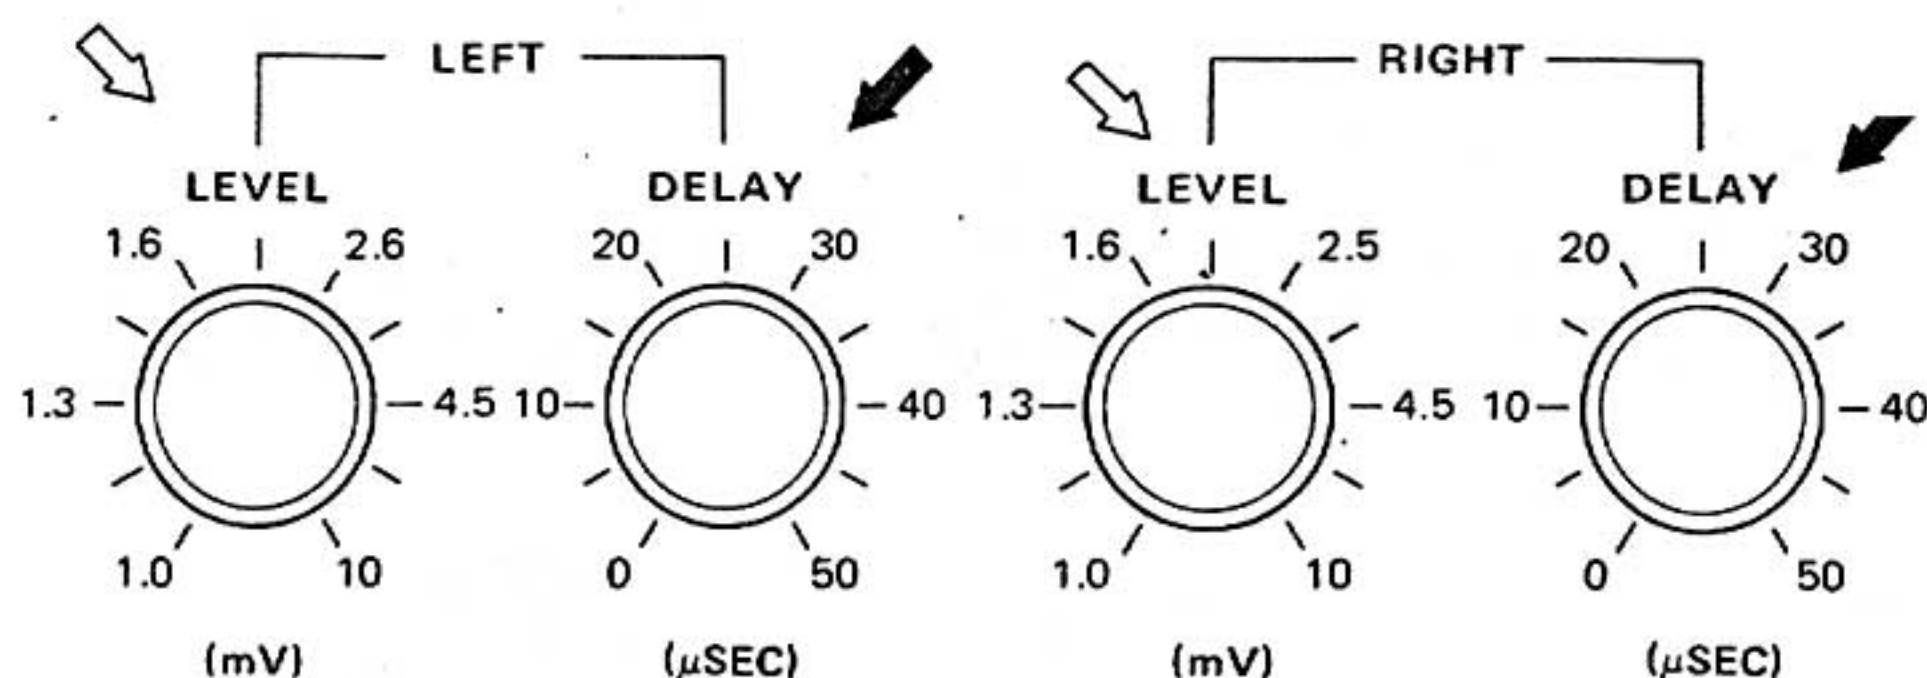

Fig. 5
- (2) Use the adjustment record provided for separation adjustment. Play the section of the record which contains a lower frequency signal (600Hz) and turn the LEFT and RIGHT LEVEL controls (shown in Fig. 5) to minimize the sound volume from the back channels. To make this adjustment easier, adjust the amplifier's volume or balance controls beforehand, so that only the corresponding back channel can be heard. The LEVEL control scale values indicate the output level of a cartridge when a record cut with a horizontal amplitude velocity of 5cm/sec (JIS standard) is being played. Use these values as a rough reference if you know the specifications of your cartridge. For instance, JVC's X-1 CD-4 cartridge has a rated output voltage of 2.7mV/
5cm/sec. When this cartridge is used, the point at which the corresponding back channel volume reaches its minimum will be slightly to the left of "2.5" position on the LEVEL control. However, some cartridge manufacturers use different standards to express the cartridge output voltage and it is also probable that the indicated data is different from the actual value. The scale values should, therefore, be considered as just a rough reference. After completing the separation adjustment, play the section of the test record containing a higher frequency signal (4kHz) and adjust the LEFT and RIGHT DELAY controls in the same way as above to minimize the back channel sound volume. (Fig. 5)